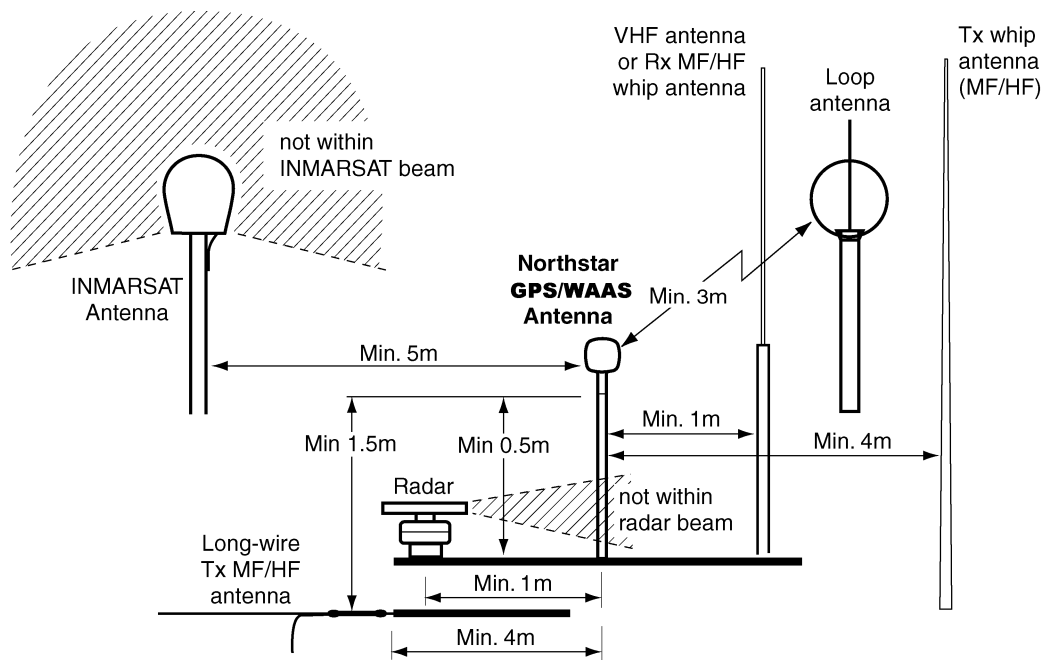

Figure 8: Recommended separation distances between antennas
- below the radiation plane of any INMARSAT or radar antennas, and away from any other high-power transmitting antennas (see Figure 8 on page 19).
To avoid mutual interference among different antennas on the vessel, see the recommendations in Figure 8 below. This figure shows the minimum distances that should separate GPS/WAAS antennas from other antennas and physical mounting surfaces. Normally, these guidelines produce a relatively trouble-free installation. However, you may want to adjust these distances to the particular equipment, since every installation is unique.
The 2701 operates with Northstar's AN205-P "combo" GPS/DGPS antenna. Mount the antenna high enough to clear any objects and get an unobstructed view of the horizon in all directions. Mount it low enough on the vessel to avoid extra motion from pitching and rolling, and lower than any high-power transmitting antennas, such as radar or satcom (see Figure 8 on page 19 for recommended separation distances between antennas). Keep the antenna at least six feet away from objects that can "shade" GPS or differential signals.